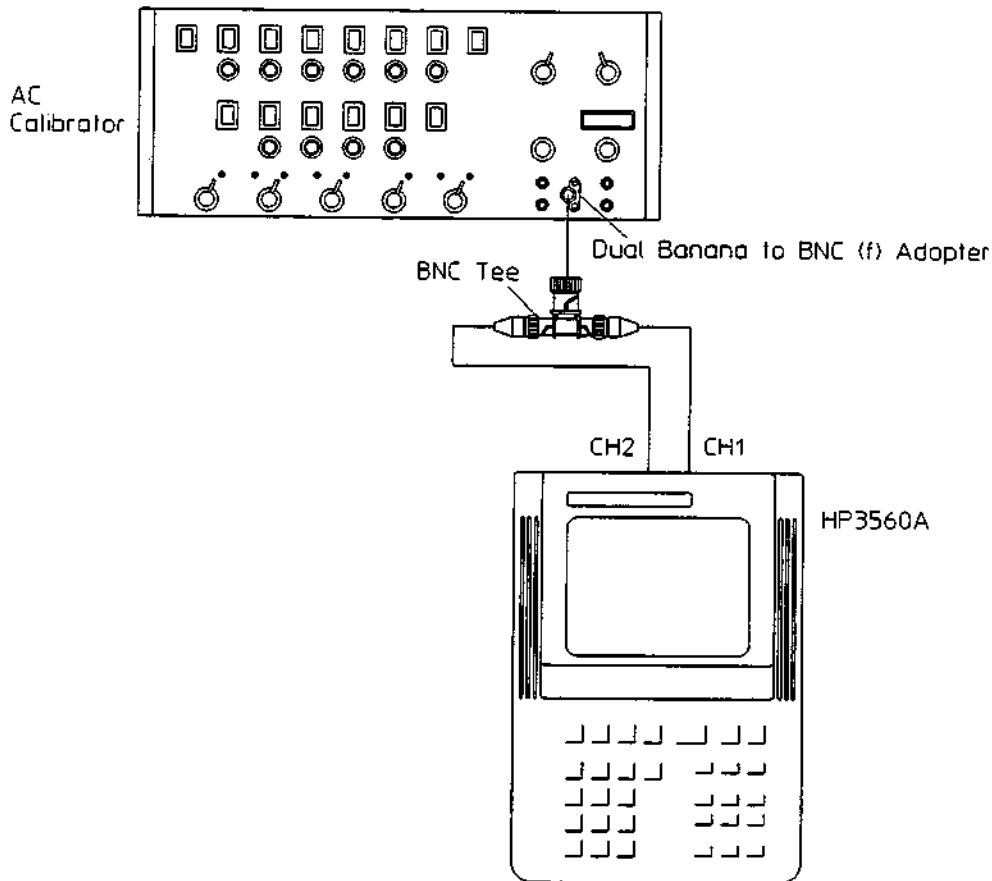

Figure 3-7.
1. Connect the ac calibrator to both channel 1 and channel 2 as shown in figure 3-7.